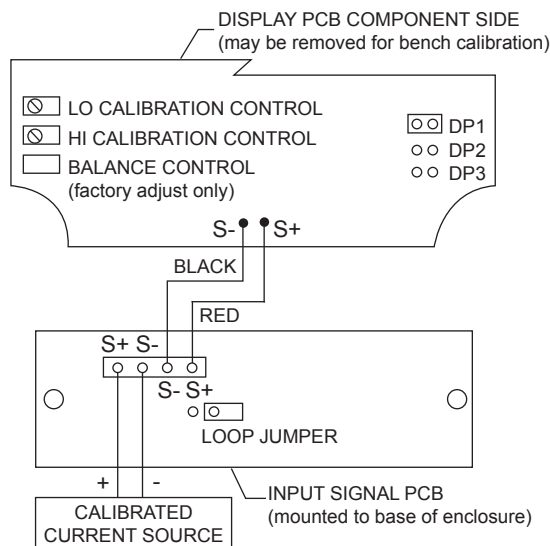

Figure 1: Calibrator Connected to Input Signal PCB
To access the input terminals it is necessary to remove the enclosure cover and the Display PCB. This is done by loosening the four screws on the enclosure cover and removing the cover. Completely loosen the left screw that holds the Display PCB to the enclosure and loosen the right screw about four turns so the Display PCB remains attached to the enclosure. Rotate the Display PCB 90° to gain access to the Input Signal PCB. Next, connect a calibrated current source per Figure 1.
LO and HI calibration controls are located to the left of the display (see Figure 1). Apply a signal equal to 4 mA and adjust the LO control to display the desired reading. Apply a signal between 16 and 20 mA and adjust the HI control to display the desired reading. Complete the calibration procedure by making any minor adjustments to the LO and HI controls.
3. Connect red wire to S+ terminal and black wire to S- terminal, as shown in Figure 1.